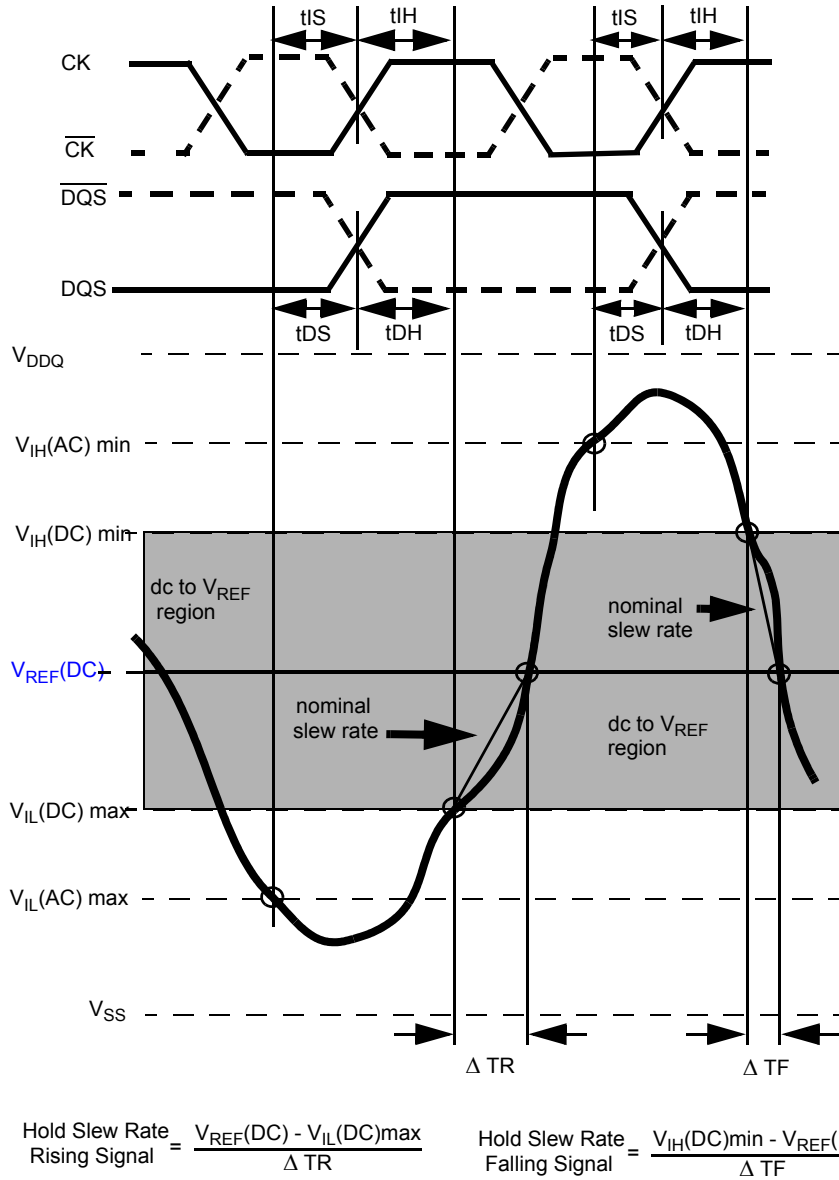
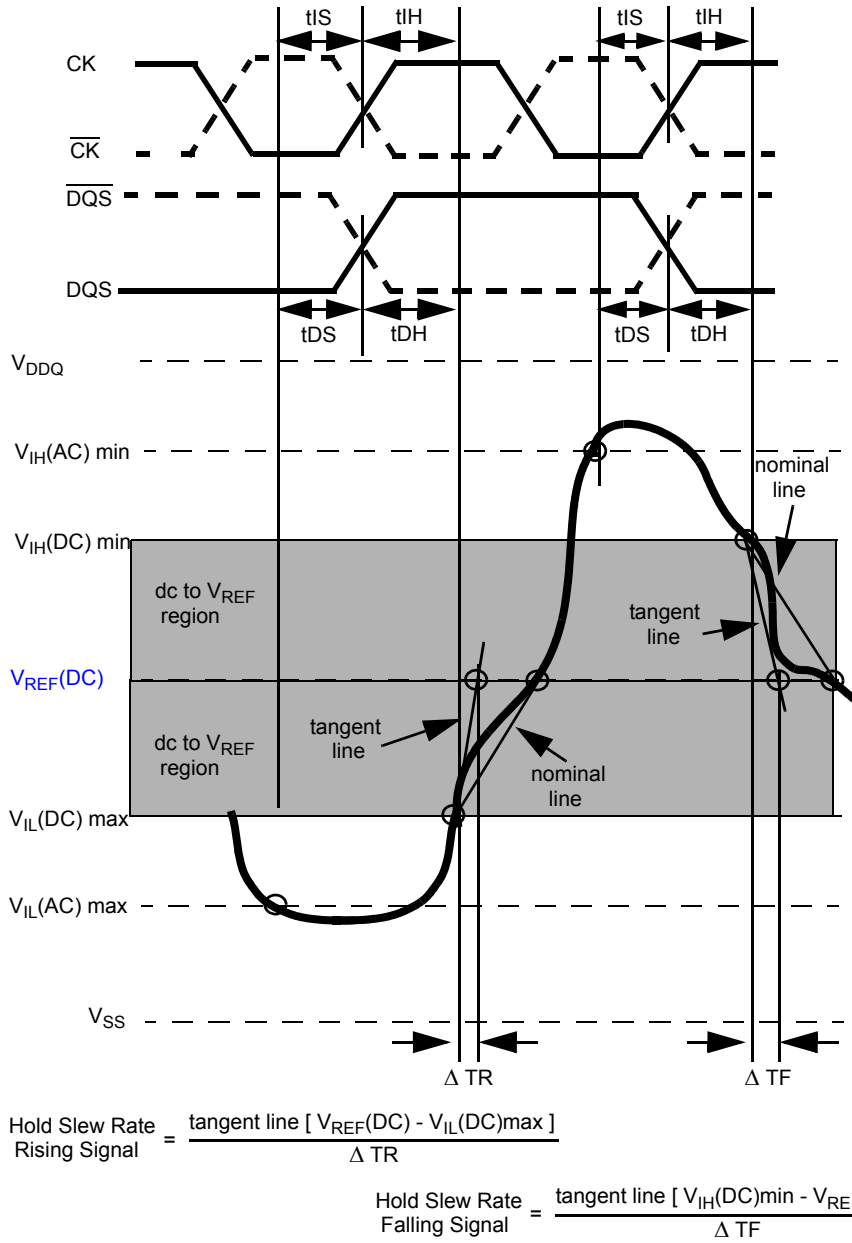

Figure 21. Illustration of nominal slew rate for hold time t_{DH} (for DQ with respect to strobe) and t_{IH} (for ADD/CMD with respect to clock).
Figure 23. Illustration of tangent line for hold time t_{DH} (for DQ with respect to strobe) and t_{IH} (for ADD/CMD with respect to clock)
Hold (tIH) nominal slew rate for a rising signal is defined as the slew rate between the last crossing of VIL(DC)max and the first crossing of VREF(DC). Hold (tIH) nominal slew rate for a falling signal is defined as the slew rate between the last crossing of VIH(DC)min and the first crossing of VREF(DC). If the actual signal is always later than the nominal slew rate line between shaded 'dc to VREF(DC) region', use nominal slew rate for derating value (see Figure 21). If the actual signal is earlier than the nominal slew rate line anywhere between shaded 'dc to VREF(DC) region', the slew rate of a tangent line to the actual signal from the dc level to VREF(DC) level is used for derating value (see Figure 23).